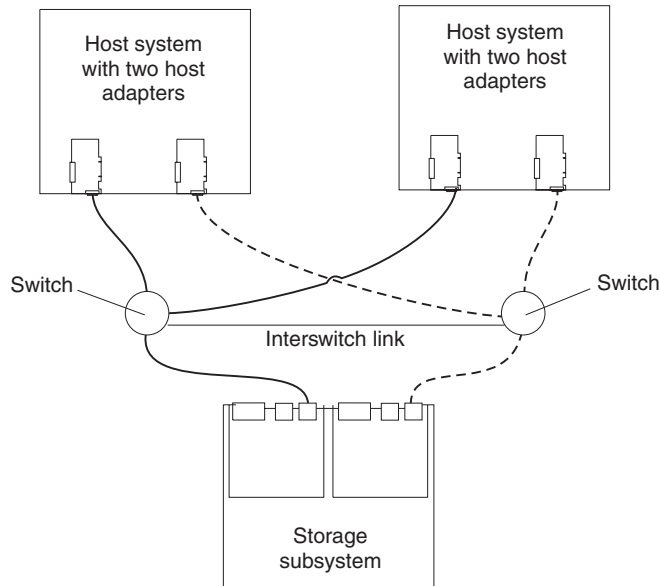

Figure 56. Example of a single SAN fabric configuration
- Single SAN fabric configuration, as shown in Figure 56 on page 84
In Figure 56, the Fibre Channel switches are connected together via the inter-switch link (ISL) to form a single SAN fabric.